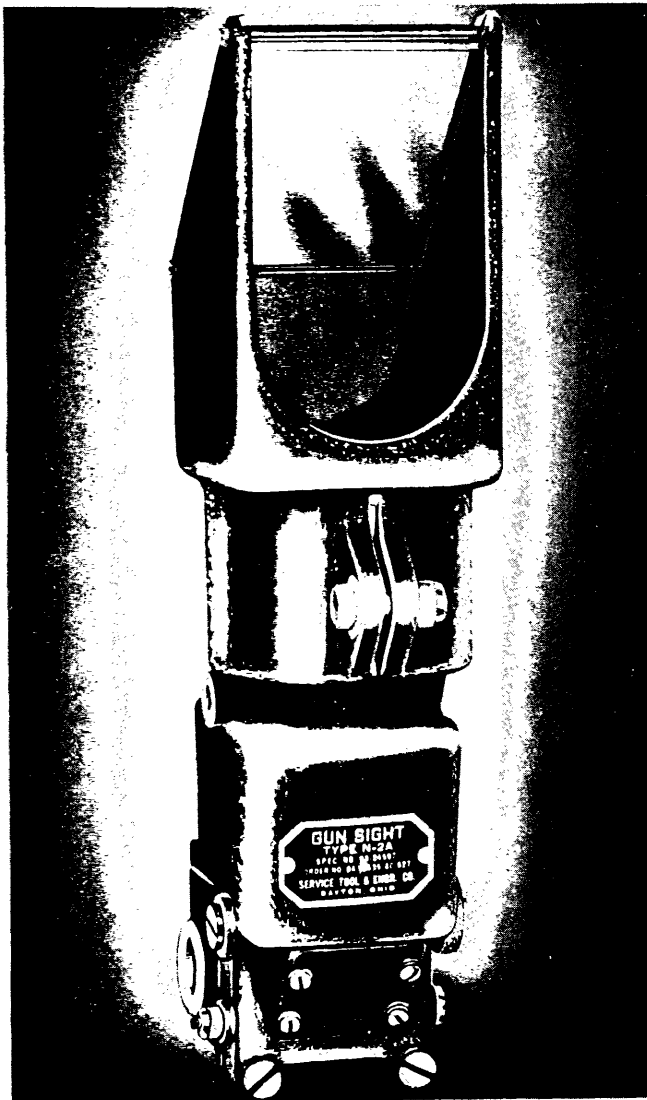

Figure 105A
**NOTE:** Some reflector supports have two ears which are clamped together by a bolt and nut. (See figure 105A.) To remove this type housing, the nut must be loosened before the housing can be removed. Some type N-3A and N-3B sights having this housing must also be unscrewed from the main housing.